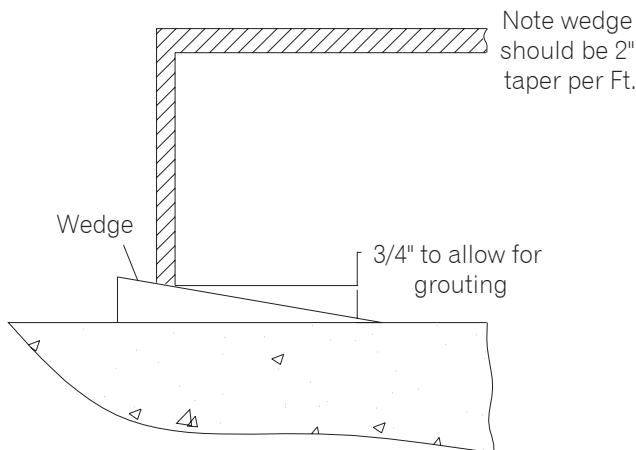

Fig. 3
1. Place 12 wedges on the foundation, one wedge on each side of every mounting bolt. Place wedges so that baseplate is 3/4" above foundation to allow for adequate grouting (Fig. 3).